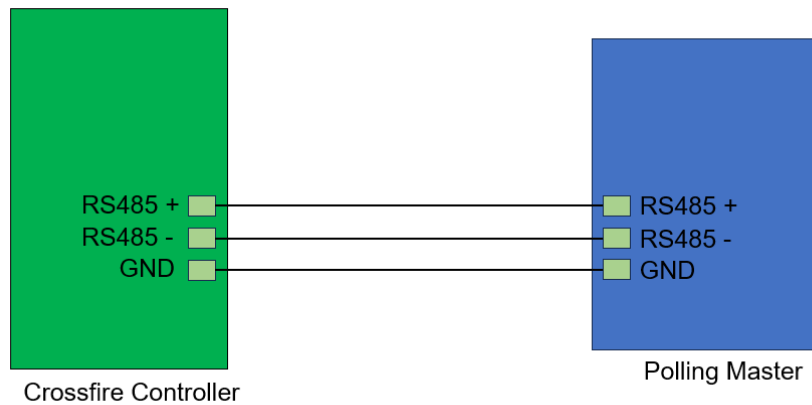

Figure 1: Wiring Diagram for RS485 Communications
- Wire two, gauge 20, single strand cables as shown in figure 1